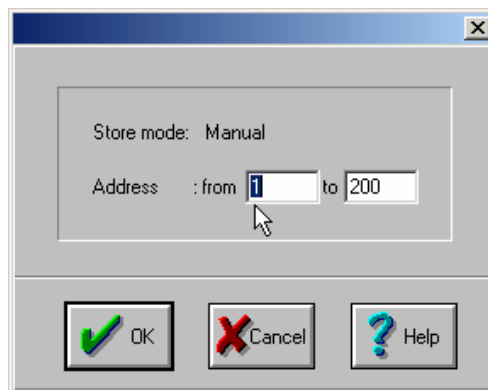

Fig. 3: Memory location selection box
10. A fourth pop-up box appears in which the number of memory locations required to be downloaded is selected. Select the start memory location and the end memory location. (See Fig. 3) Click 'OK' to accept.